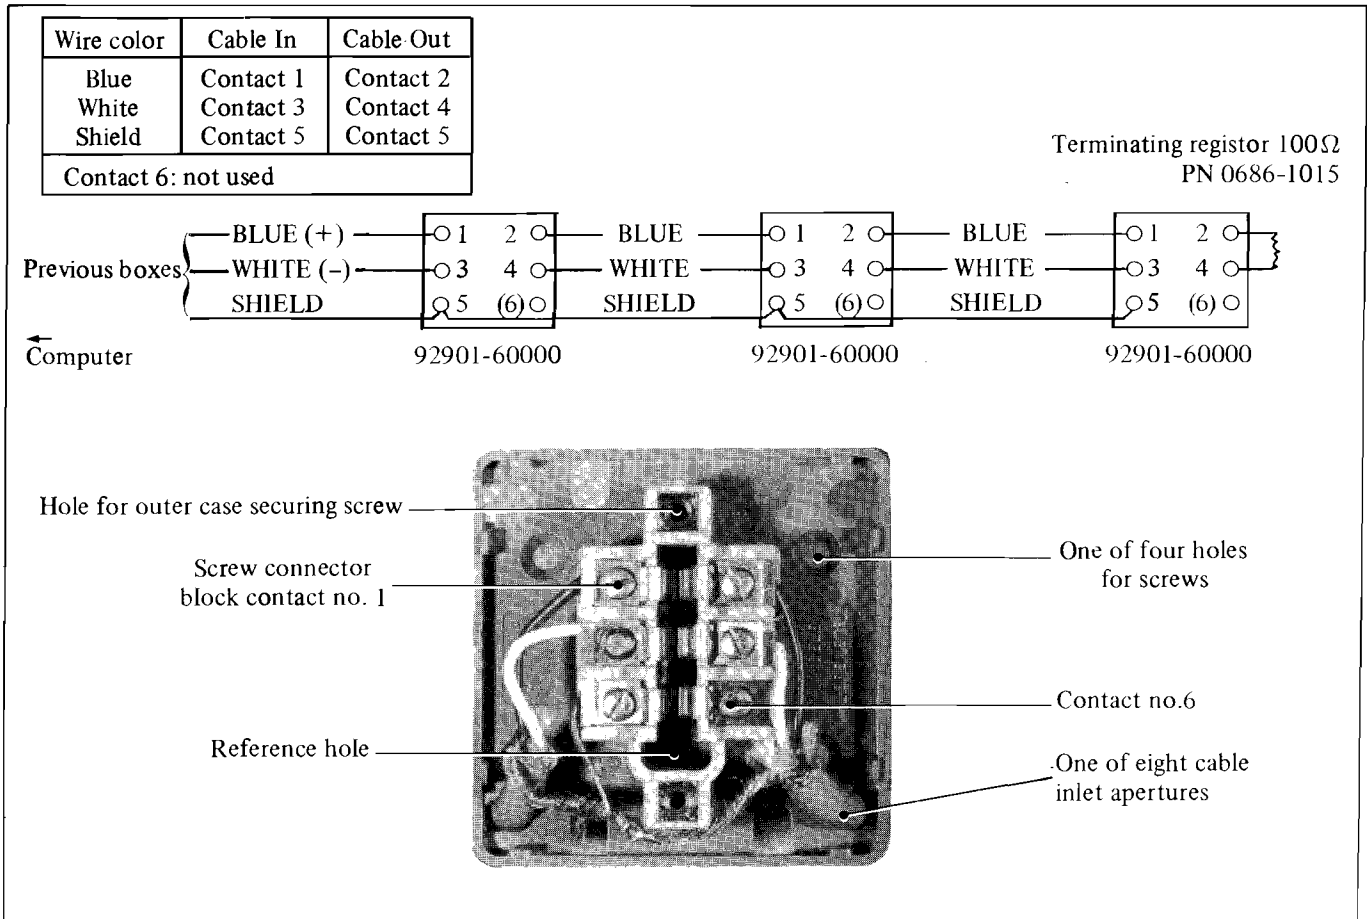

Figure 15-9 Factory Data Link Connection Boxes
The base of the connection box contains eight cable inlet apertures, two at each corner (see figure 15-9). Before the connection box is installed, two of these apertures (normally on opposite sides of the screw connector block) must be enlarged to facilitate the side entry and side exit of the Data Link cable, when required. This may be achieved using a pair of long-nosed pliers to snap off (from the rear of the base) the "thinner" outside wall of the base adjacent to the appropriate inlet aperture.
Connection box mounting. The connection boxes may be mounted either horizontally or vertically using the four countersunk holes provided in the base of the box (see figure 15-9). The boxes should normally be mounted so that when they are wired the Data Link inlet cable and outlet cable do NOT cross over one another within the box, as this may prevent the replacement of the outer case.
3) Pass the Data Link cable from the previous terminal through the relevant cable inlet aperture in the wall of the base. Connect the cable to the screw connector block contacts (see figure 15-9):
4) Pass a length of the Data Link cable (that is going from this connection box to the next terminal) through the other cable inlet aperture in the wall of the base. Ensure the two cables (within the box) do not cross over. Connect the cable to the screw connector block contacts (see figure 15-9):
5) Replace the connection box outer case, ensuring the reference hole in the case aligns with the reference hole on the screw contact block (see figure 15-9). When the connector box is not being used, the supplied protective cover should be inserted into the Data Link-to-Device plug aperture, to inhibit the ingress of dirt.
Link Terminating resistor installation. When the connection box is at the end of the Data Link cable, a 100 Ω 0.5 watt terminating resistor (HP part number 0686-1015) must be installed in the box. This resistor must be placed between contacts 2 and 4 (i.e. on the side of the screw contact block opposite to the cable coming from the previous terminal), see figure 15-9. This resistor is mandatory on both ends of the Data Link as it eliminates wave reflections.